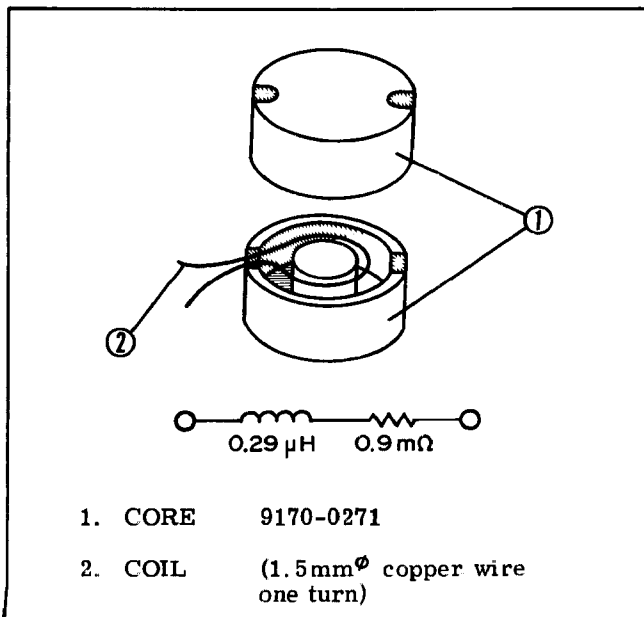

Figure 5-2. $(0.9m\Omega + j1.8m\Omega)$ Impedance
- a. Set the Model 4328A range to $1\text{m}\Omega$ and measure an impedance of $(R + j\omega L)$ as shown in Figure 5-2, where R should be calibrated by DC bridge and the reactance value twice that of R.